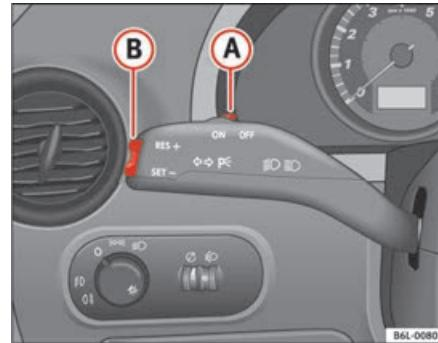

Fig. 107 Turn signal and main beam headlight lever switch and rocker switch for the cruise control
- Move the control (A) to the right to **OFF** or turn the ignition off when the vehicle is stationary. ■
- Press the lower part **SET** of the rocker switch ⇒ fig. 107 (B) once briefly when you have reached the speed you wish to set.